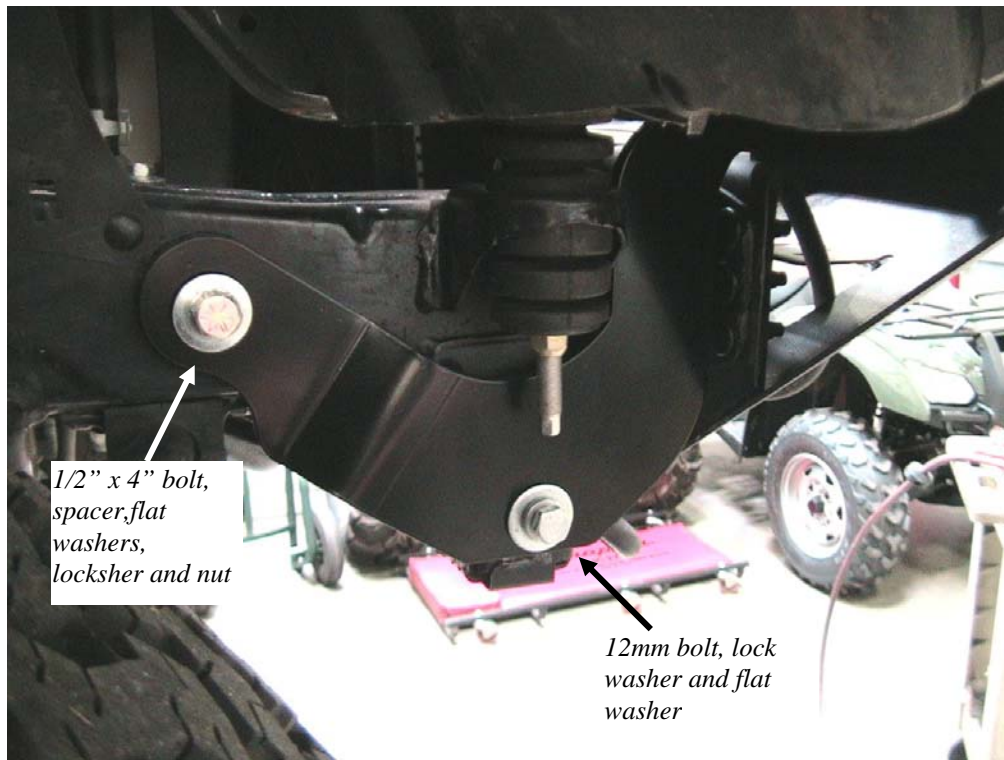

Figure 14 Lower Frame Bracket, right side shown
13. Hold a Frame Bracket in position and insert a 12mm bolt with 1/2" lock washer and flat washer through the bottom hole in the Bracket and into the threaded hole in the frame. Do not tighten yet. **Figure 14**
14. Slide a 1/2" flat washer and Spacer Tube over a 1/2 x 4" bolt and insert through the Frame Bracket and Frame. Install 1/2" lock washer and hex nut. Do not tighten yet. **Figure 14**